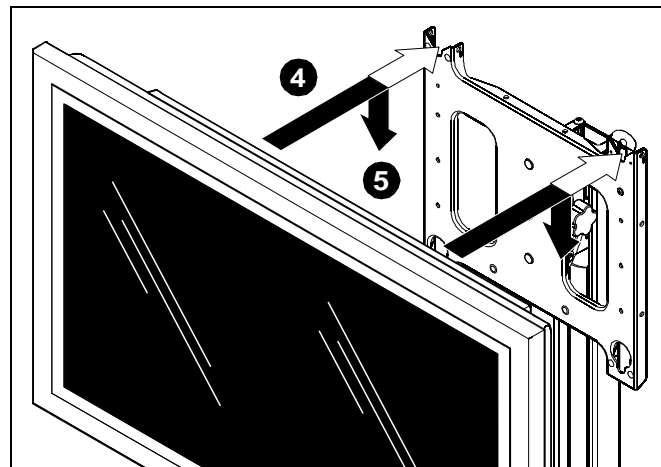
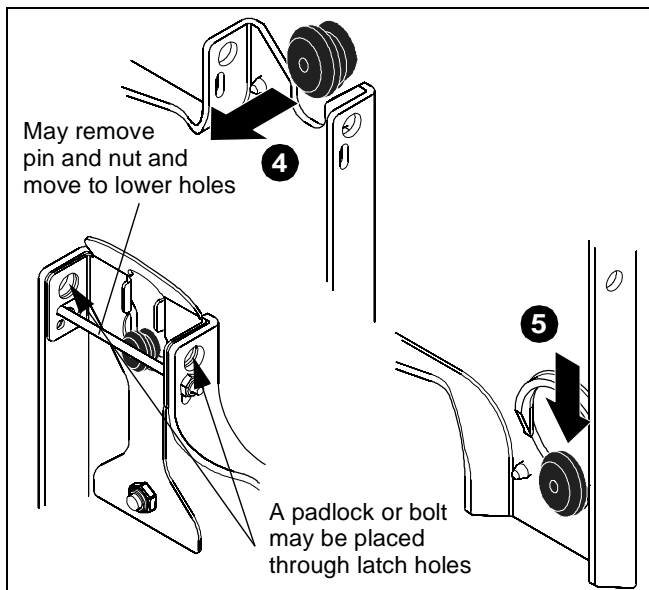

Figure 15
Figure 16
4. While supporting both sides of display, align four mounting buttons on display or interface bracket with four mounting holes in head assembly. (See Figure 15) and (See Figure 16)
5. Lower display into place listening for audible "click" to ensure recessed area of mounting buttons are properly seated in lower area of mounting holes. (See Figure 15) and (See Figure 16)
- NOTE:** Holes are provided in the faceplate for use with a padlock or similar locking device, if desired. In addition, the pin and nut may be removed from the upper holes and moved to the lower holes for use as a more permanent locking device. (See Figure 16)